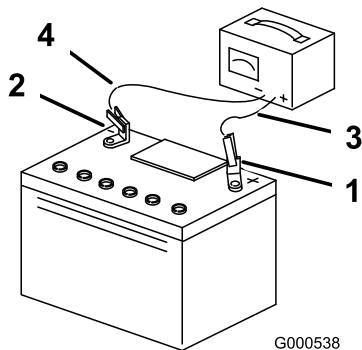

Figure 55
5. When the battery is fully charged, unplug the charger from the electrical outlet, and disconnect the charger leads from the battery posts (Figure 55).